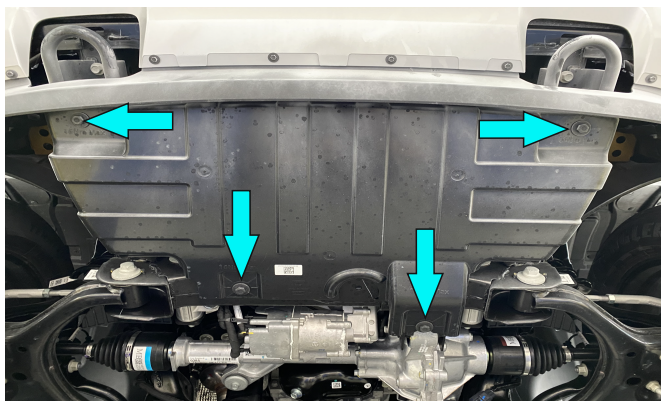

Fig.1
1. Unscrew OE bolts and remove OE plate (fig.1).